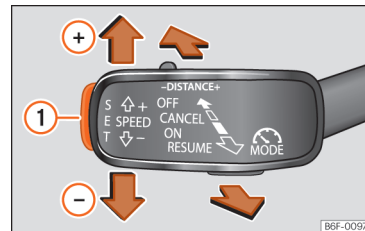

Fig. 151 On the left of the steering column: third lever for operating the GRA.
- Push button **SET** » Fig. 151 ①.
- Press the button **SET**  **Fig. 151**  to reduce speed in small increments of 1 km/h (1 mph).